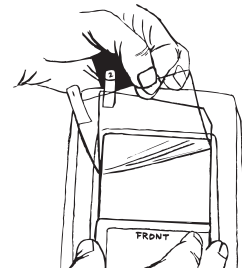

Figure K-3
- Completely remove Tab 1 (see Figure K-3).